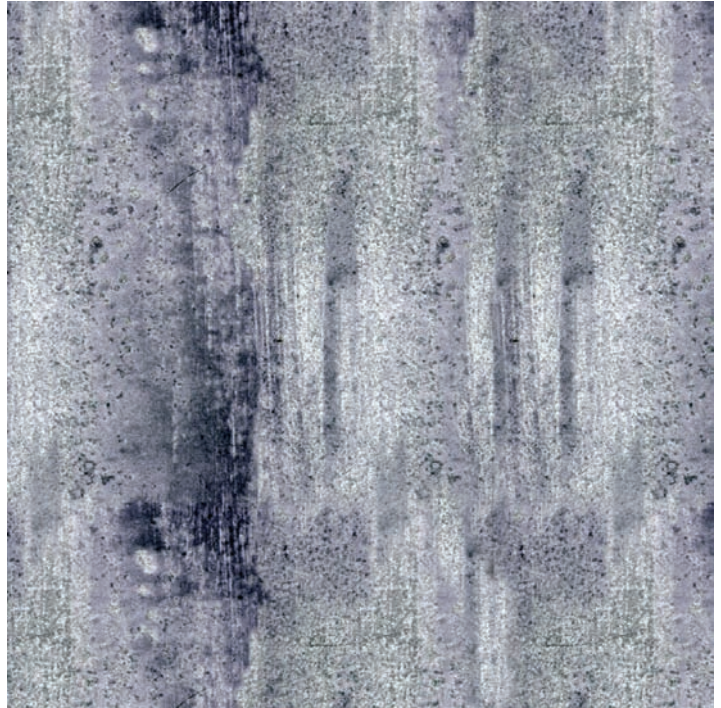

Figure 7.20
11. Simply adjust the levels (Ctrl+L) of the image until you have a high-contrast version of the metal, such as what I have in Figure 7.20.